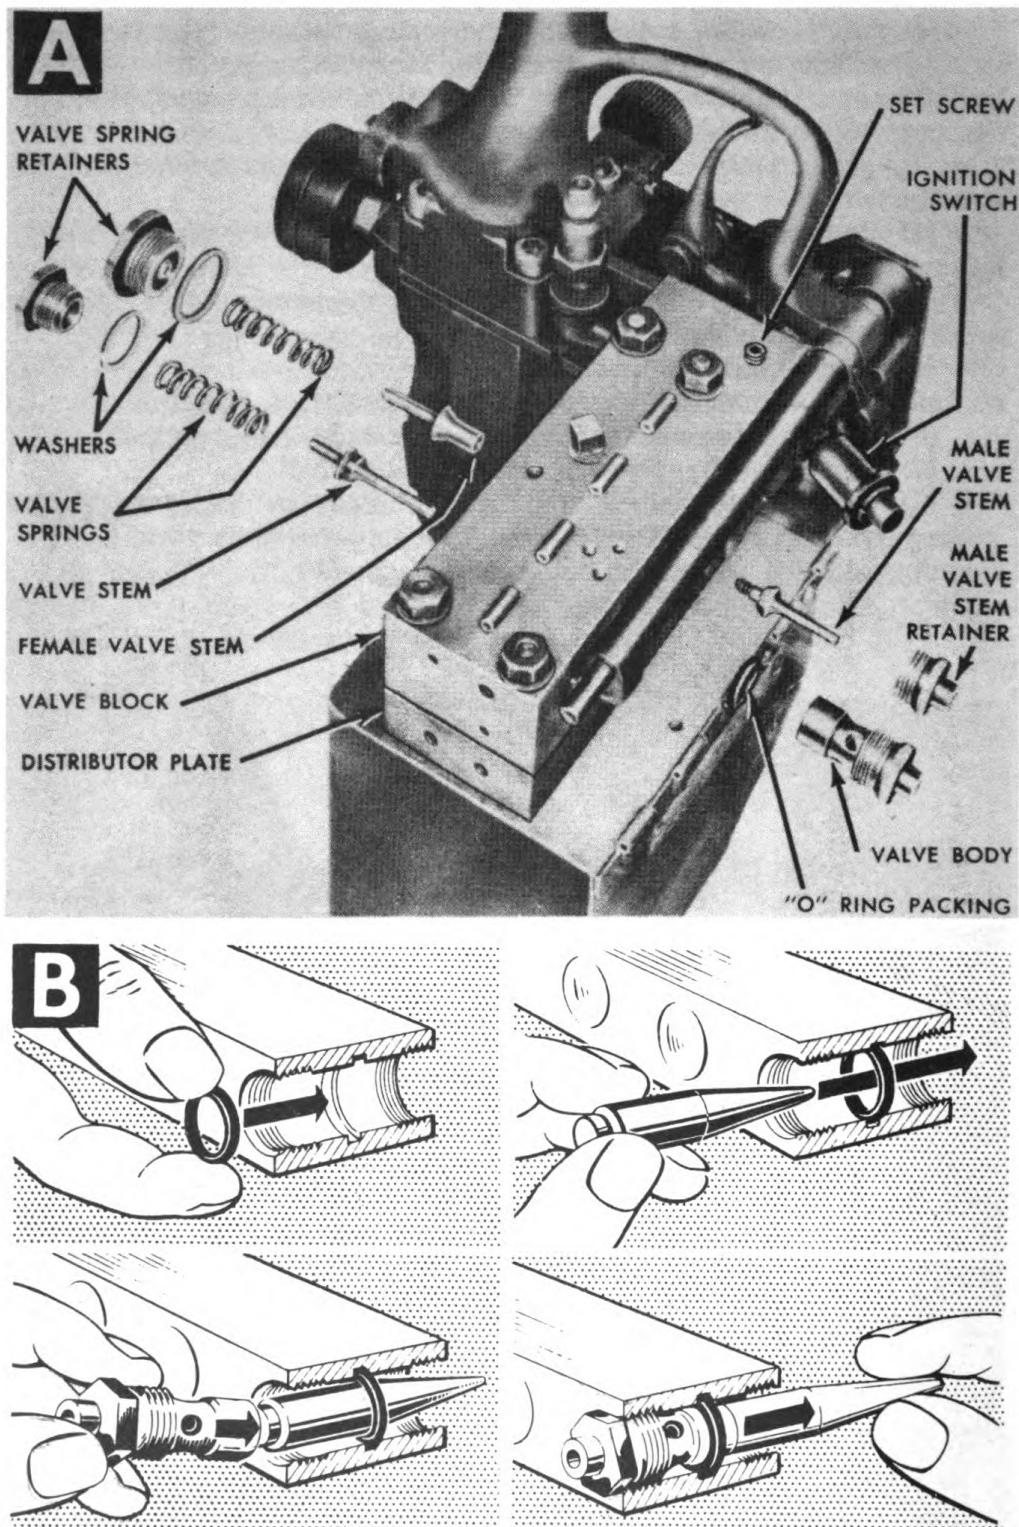
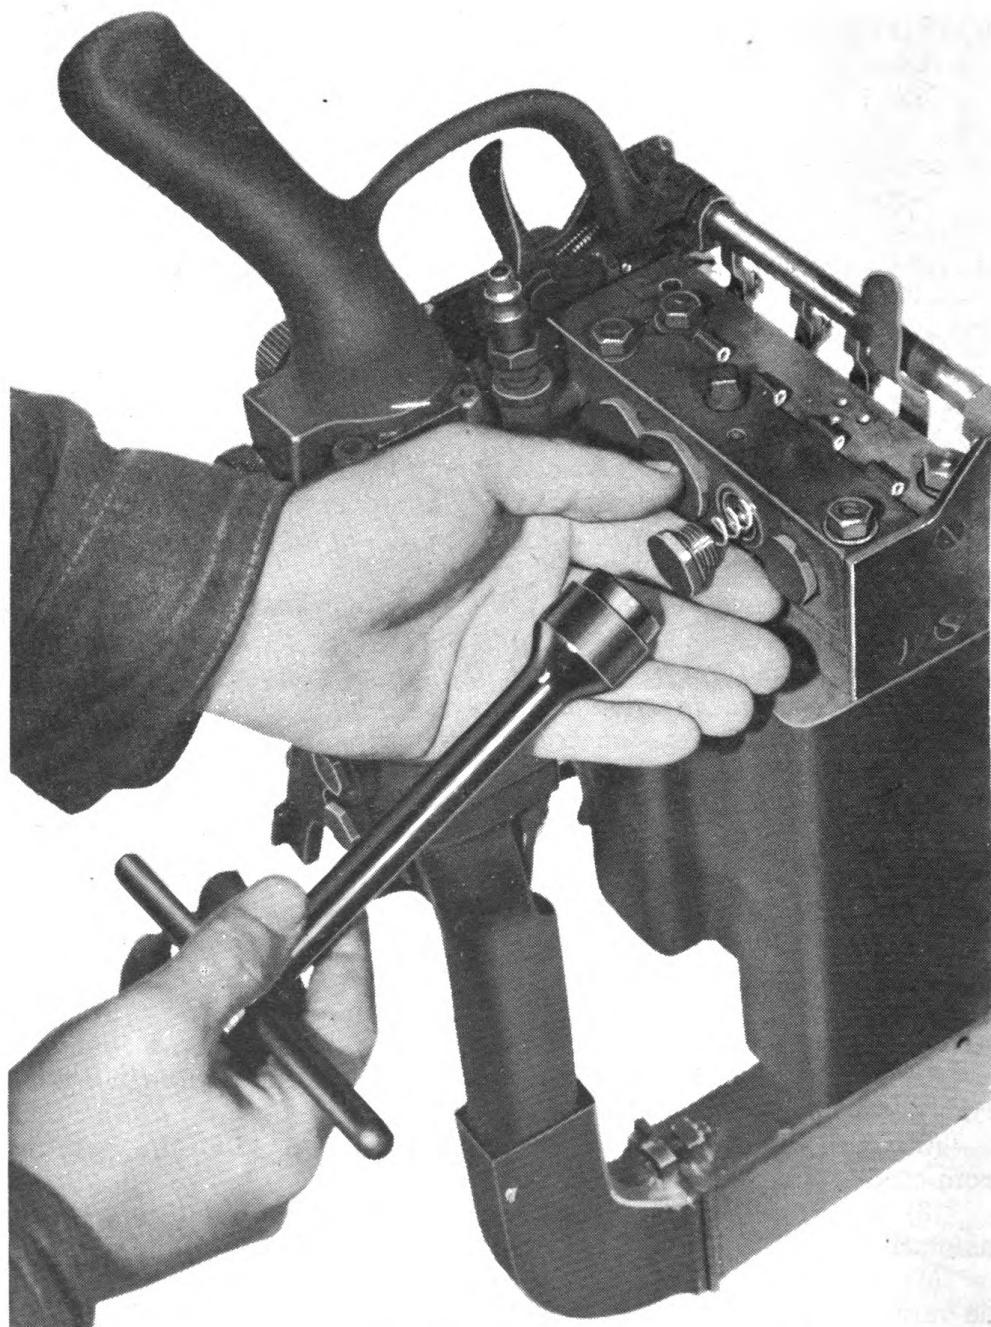

Fig. 106. (A) Exploded view of valve block assembly.
Fig. 107. Removing valve spring retainer.
- (3) Loosen lock nuts on each control lever screw.
- (4) With hex wrench, screw down ignition control lever adjusting screw until it touches the ignition switch.
- (5) Screw down adjusting screws on valve control levers until screws touch the valve stems. Back the screws four turns.
- (6) Pull trigger slowly until ignition spark is seen. If spark forms before operation of valves, continue pulling trigger until atomized gasoline flows from atomizer. Release trigger and secure adjusting screws in position by tightening lock nuts.
- (7) If spark cannot be obtained before atomized gasoline flows from atomizer, release trigger and back the valve lever adjusting screws one turn. Continue procedures (1) through (6) until spark is obtained before flow of atomized gasoline.
a. General. The valve block assembly (fig. 106 A) is secured under the distributor plate. It is enclosed by a dust cover which is secured by two hinge pins. The assembly consists of the valve block, ignition switch, and the air valve, gasoline valve, blow-out valve, and discharge
- (1) Slide control levers, spacers, and shaft into bearing on end plate (plate nearest blow-out lever).
- (2) Slide control levers and trigger mechanism into position so that lugs on shaft are over correct control levers.
- (3) Draw ignition switch wires through distributor plate.
- (4) Replace distributor plate.
- (5) Replace safety plate. It may be necessary to pull on trigger in order to clear the projection on safety plate.
- (6) Replace screws securing safety plate to distributor plate.
- (7) Replace trigger spring.
d. Removal and replacement of ignition switch. (1) To remove switch from valve block assembly:
- Loosen socket head set screw on bottom of valve block which secures switch to the block (fig. 106 (A)).
(2) To replace switch, reverse procedure for removal.
(1) To remove valve assembly:
- Unscrew and remove valve spring retainer, washer, and valve spring on back of valve block of appropriate valve. Use socket head wrench (fig. 107).
(2) To replace valve, reverse procedure for removal.
f. Removal and replacement of discharge control valve (double valve). (1) To remove valve assembly:
- Remove discharge control valve spring retainer, spring, and washer on back of valve block with socket head wrench (fig. 106 (A)).
(2) To replace discharge control valve, reverse procedure for removal.
g. Insertion of O-ring packing (fig. 106 (B)). The O-ring packing in valve block around the single valves is replaced in the following manner:
(1) Remove the valve assembly, into which packing is to be inserted, from the valve block.
(2) With screw driver or piece of wire, remove old O-ring packing from block.
(3) Insert new packing into valve block, manipulating it into recess inside the block.
(4) Lubricate O-packing tool with oil or soap and insert tool into the valve block (fig. 106 (B)).
(5) Place valve body over O-packing tool and push tool through the block.
- (6) Screw valve body into valve housing, keeping O-packing tool in block until valve body is secured. Tighten with wrench.
- (7) Pull out O-packing tool.